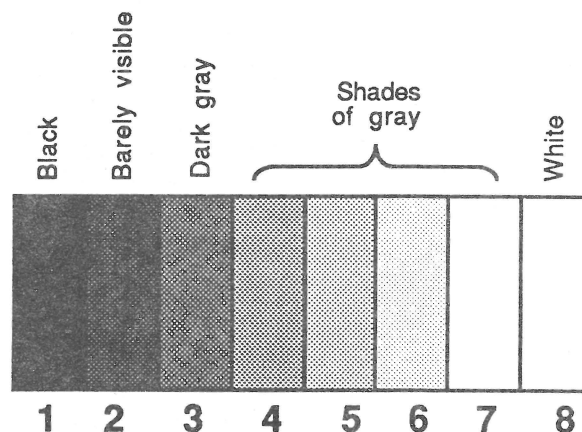

FIGURE 9
- There is no predominant color (no colored tint) in the left three bars (see Figure 9).** To achieve good color balance (tracking), try adjusting down the **background** control of the predominant color. Then, if necessary, adjust the **background** controls of the two nonpredominant colors until there is no color visible.